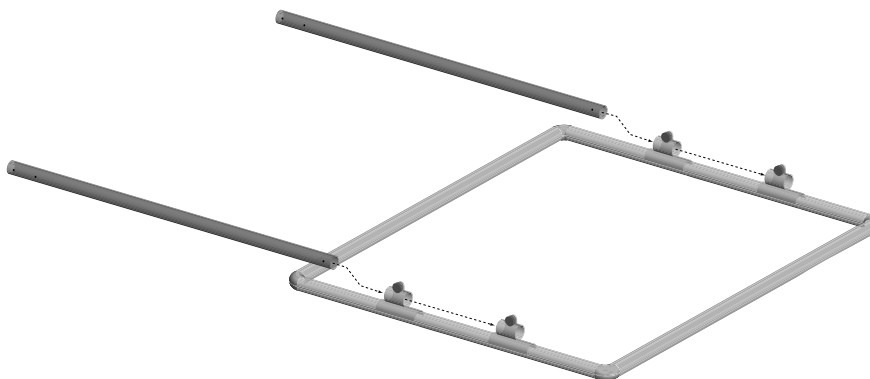

Figure 6: Inserting support posts
1. Insert upright support posts into screen frame brackets and tighten. Refer to Figure 6.